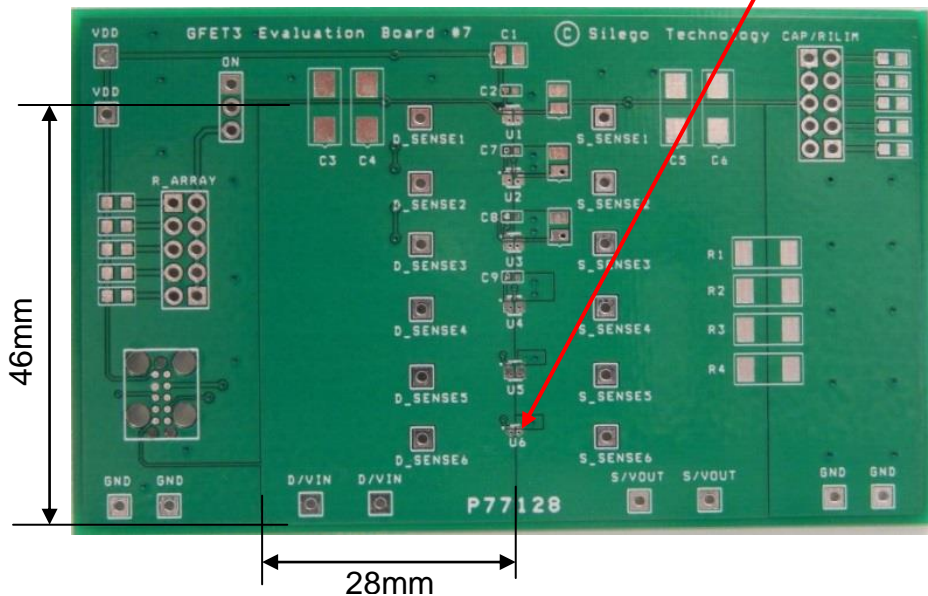

Figure 3. SLG59M1495V Evaluation Test Board
2.2. The D/VIN and S/VOUT pins carry significant current. Please note how the D/VIN and S/VOUT pads are placed directly on the power planes in Figure 3, which minimizes the RDS(ON) associated with long, narrow traces. The D/VIN, S/VOUT and GND pins dissipate most of the heat generated during high-load current condition. The layout shown in Figure 3 is illustrating a proper solution for heat to transfer as efficiently as possible out of the device.